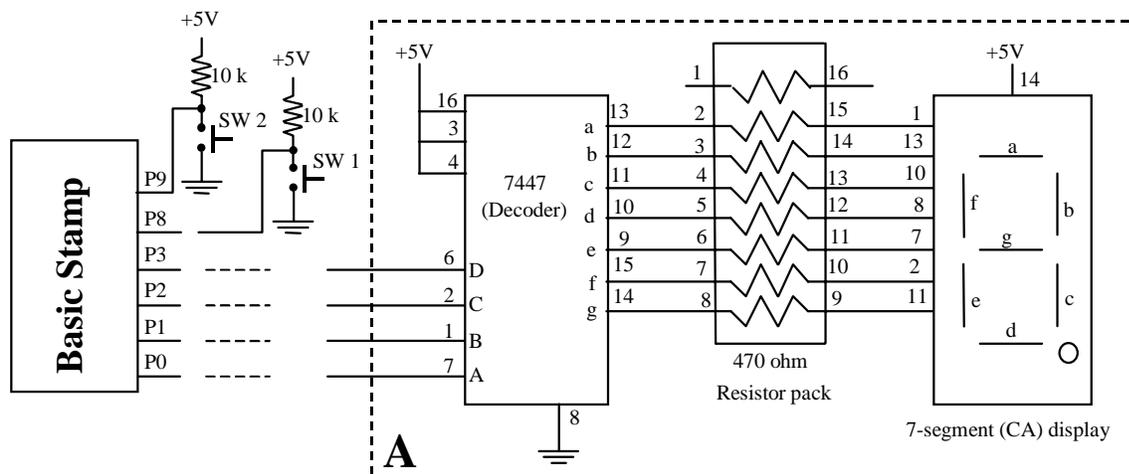

Figure 3 Switch-controlled display circuit.
Figure 3 shows the circuit you will use in this lab.
5. Complete the circuit in Figure 3 by wiring in the two switches and their current limiting resistors. Try the following program: